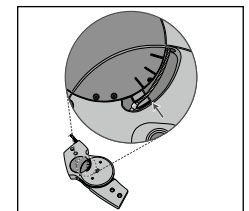

Fig. 5
3. After removal of the cover plate check if the upper side of the Lever Arm (holding the satellite cable) is parallel to the lower of the three markers on the Function Unit (**see Fig. 5**).
12. Recheck the correct position (Mode 3) of the Lever Arm in the Function Unit of the joint (see Fig. 5).